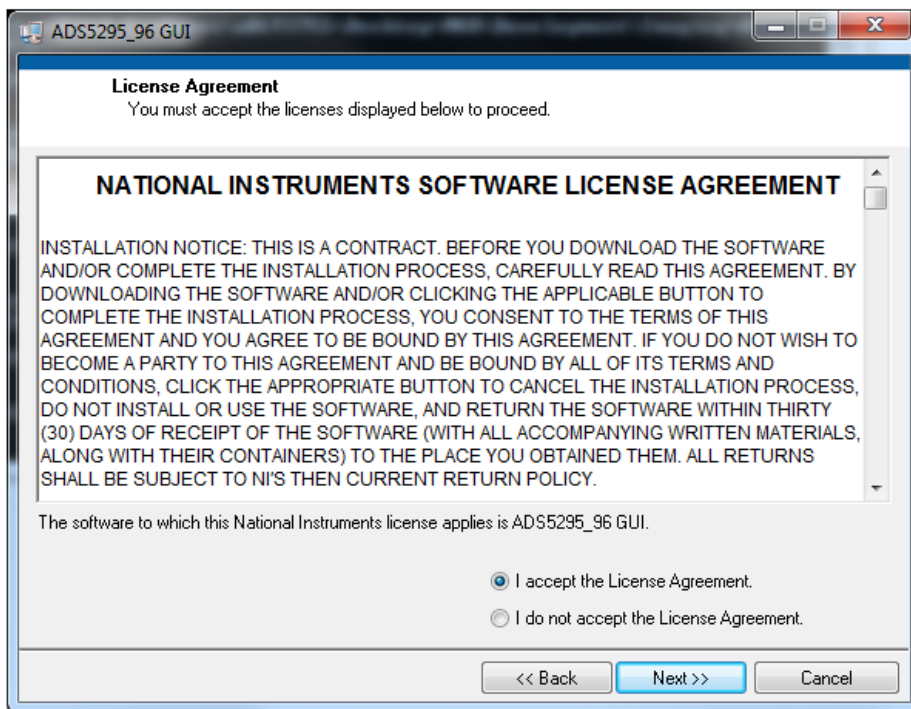

Figure 14. ADS5296 GUI Install (d)
- Read the License Agreement from National Instruments and select the *I accept the License Agreement* button and then press the *Next* button as shown in Figure 14.